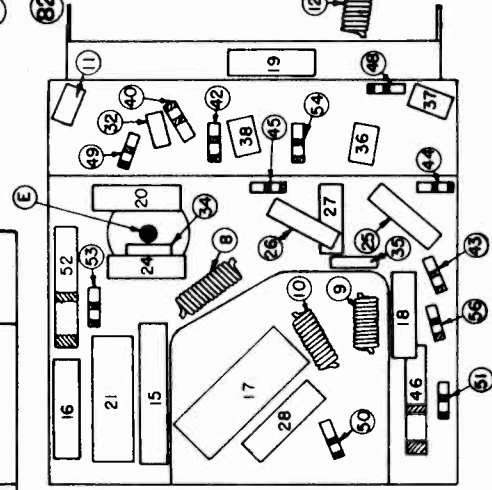

FIG. 4--PARTS LAYOUT--Bottom View
- (f) Adjust trimmers A-B-C-D through the cutouts on the side of the chassis opposite the antenna and "A" receptacles (Illus. 12 & 13, Figure 4) for maximum output. Repeat with lowest possible output from the signal generator for more accurate alignment.
- (c) Adjust trimmer "E" (Illus. #11, Figure 4) while rocking the rotor plates of the gang condenser back and forth through the signal until maximum output is obtained.
A Cathode Ray Oscillograph should be used to check the I-F band spread after completing the alignment procedure. Connect the oscillograph from connection "I" (Figure 4) to ground.
- (e) Adjust trimmers A-B-C-D (Fig. 3) and I.F. core adjustment "E", (Fig. 4) in the sequence named, until maximum output is obtained.